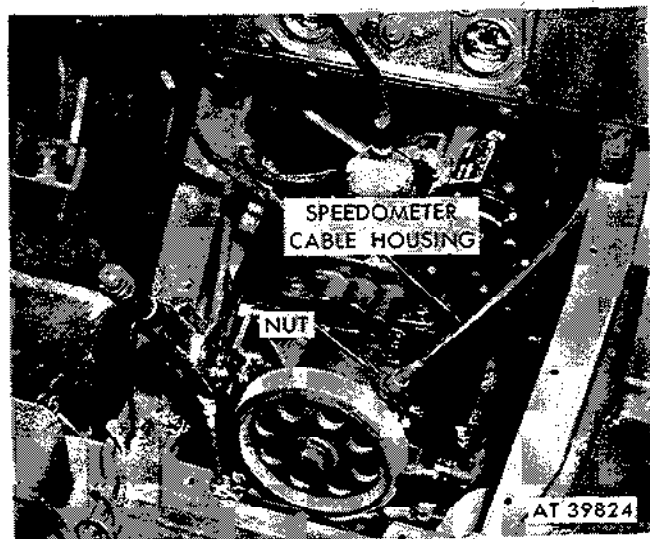

Figure 2-272. Remove speedometer cable housing from transfer case.
(3) Remove transmission cover plate (para 2-199). Loosen nut securing cable housing and remove housing from transfer case (fig. 2-272).